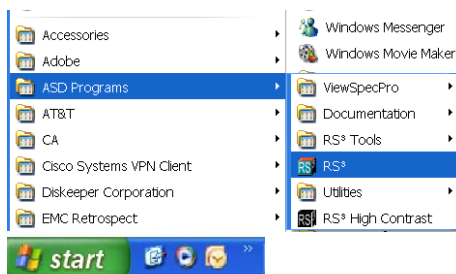

Figure 3-7: RS³ from Start menu
Step 3b Or, start the RS³ application from the Start menu: Select *All Programs* → *ASD Programs* → *RS³* (Figure 3-7).